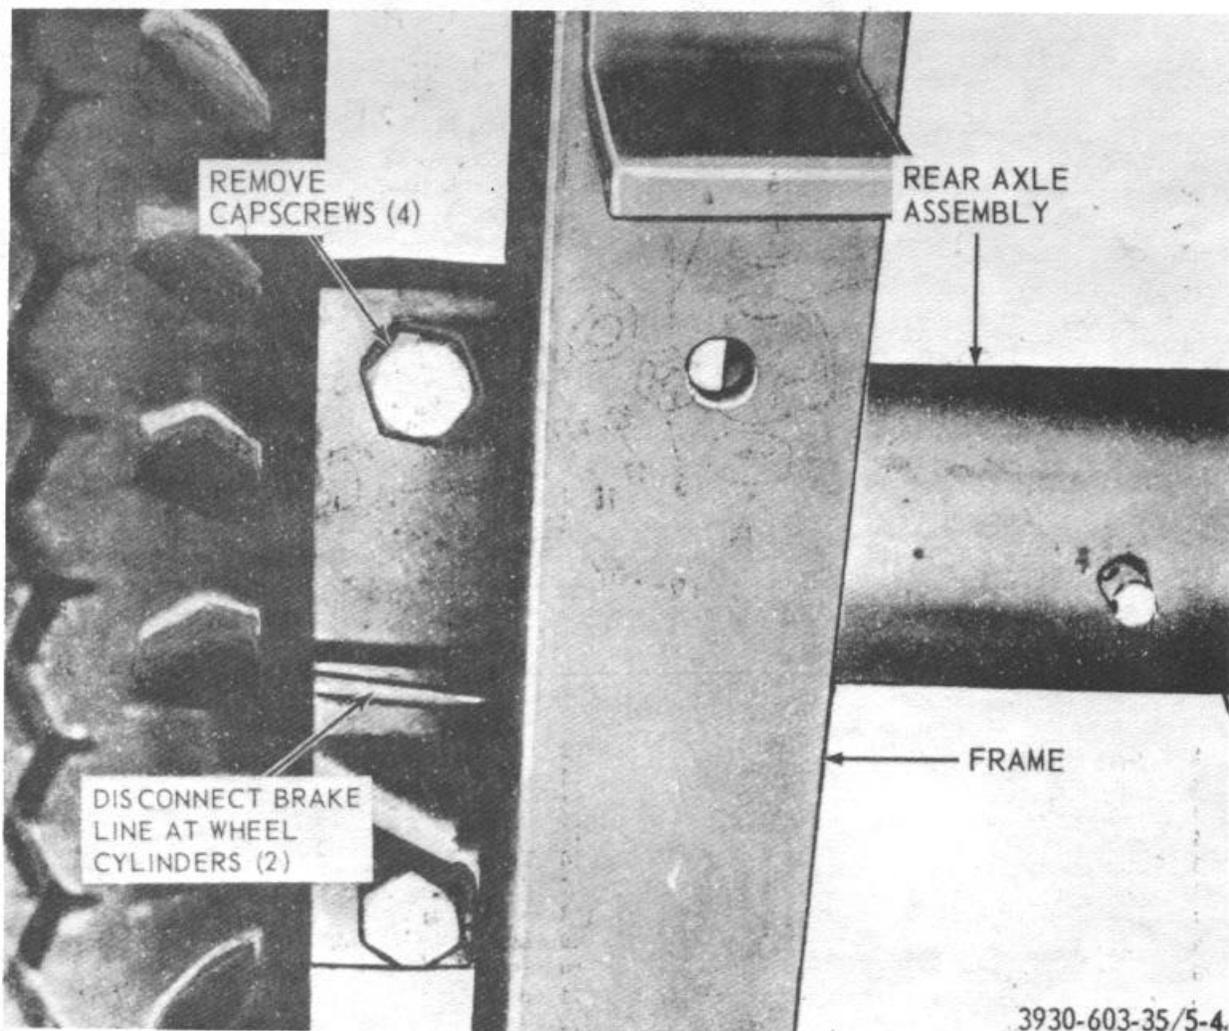

Figure 5-4. Rear axle assembly, removal and installation.
d. Remove rear axle assembly as illustrated in figure 5-4. Carefully lower jack and pull axle assembly to rear.
a. Install rear axle assembly as illustrated in figure 5-4. Place a jack under center of rear axle assembly to support axle weight during installation.